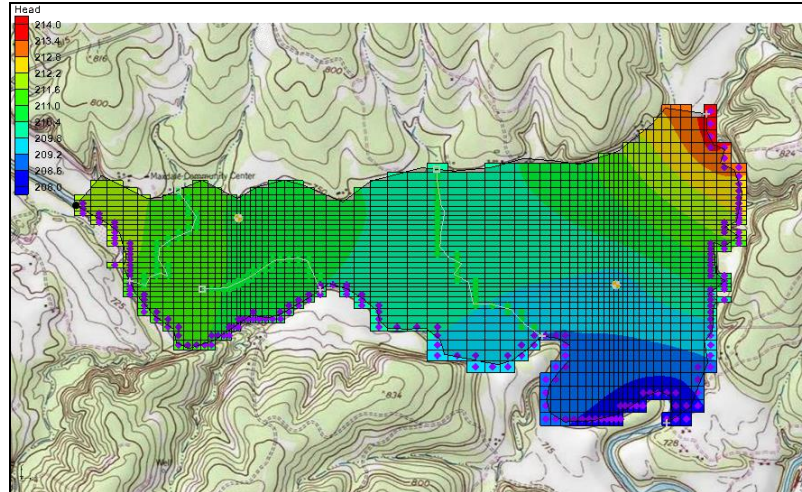

Figure 2 After importing the project
4. Click **Open** to import the project and close the *Open* dialog. The Main Graphics Window will appear as in Figure 2.